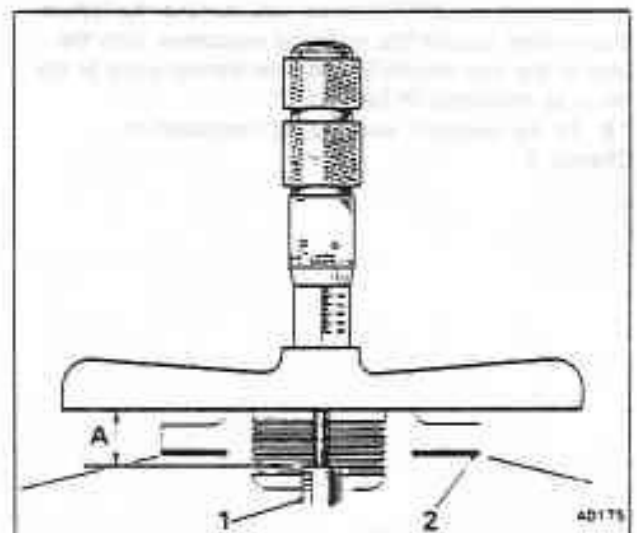

Fig. E11-2 Measuring the pump flange to push rod dimension
7. Using a depth micrometer placed across the pump flange measure the dimension to the top of the push rod (see fig. E11-2). This dimension should be between the figures quoted in Section E3, Dimensional data.
8. If the dimension is incorrect it will be necessary to alter the shims under the pump mounting flange (see fig. E11-2). The shims are available in two sizes, refer to Section E3, Dimensional data.
16. Temporarily fit the tappet chest cover assembly to the crankcase. Using a depth micrometer, confirm that the dimension from the pump flange to the top face of the push rod is correct (see fig. E11-2) refer to Section E3, Dimensional data.